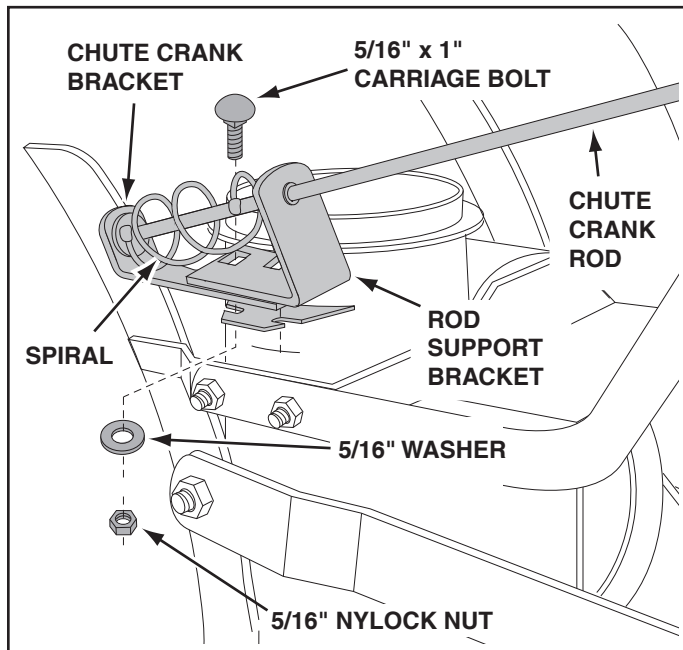

FIGURE 19
STEP 19: (SEE FIGURE 19)
- Position the crank rod spiral (see figure 19) so that it does not rub against the bottoms of the notches in the chute flange. **Tighten** the nuts.